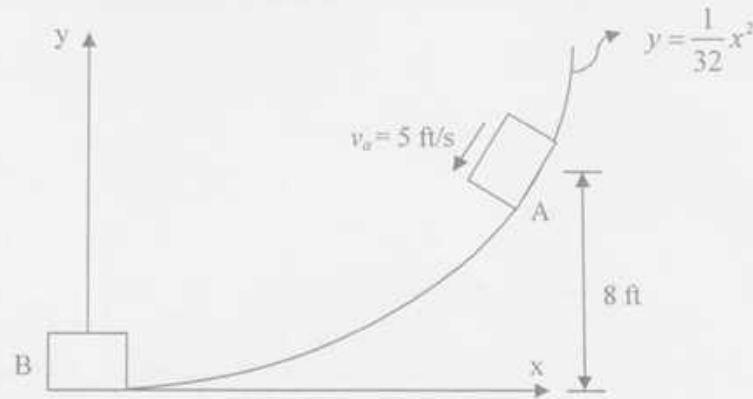

Figure 7
7. If the 10-lb block, shown in Figure 7, passes point A on the smooth track with a speed of $v_a = 5$ ft/s determine the normal reaction of the block when it reaches point B.